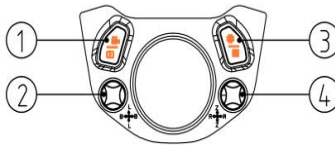

Figure 8-5 Button Diagram
**Touch operation:** touch the [Image Browsing] icon on the screen to enter the image browsing interface (see Figure 8-5). See 8.6 Image Browsing for detailed instructions.